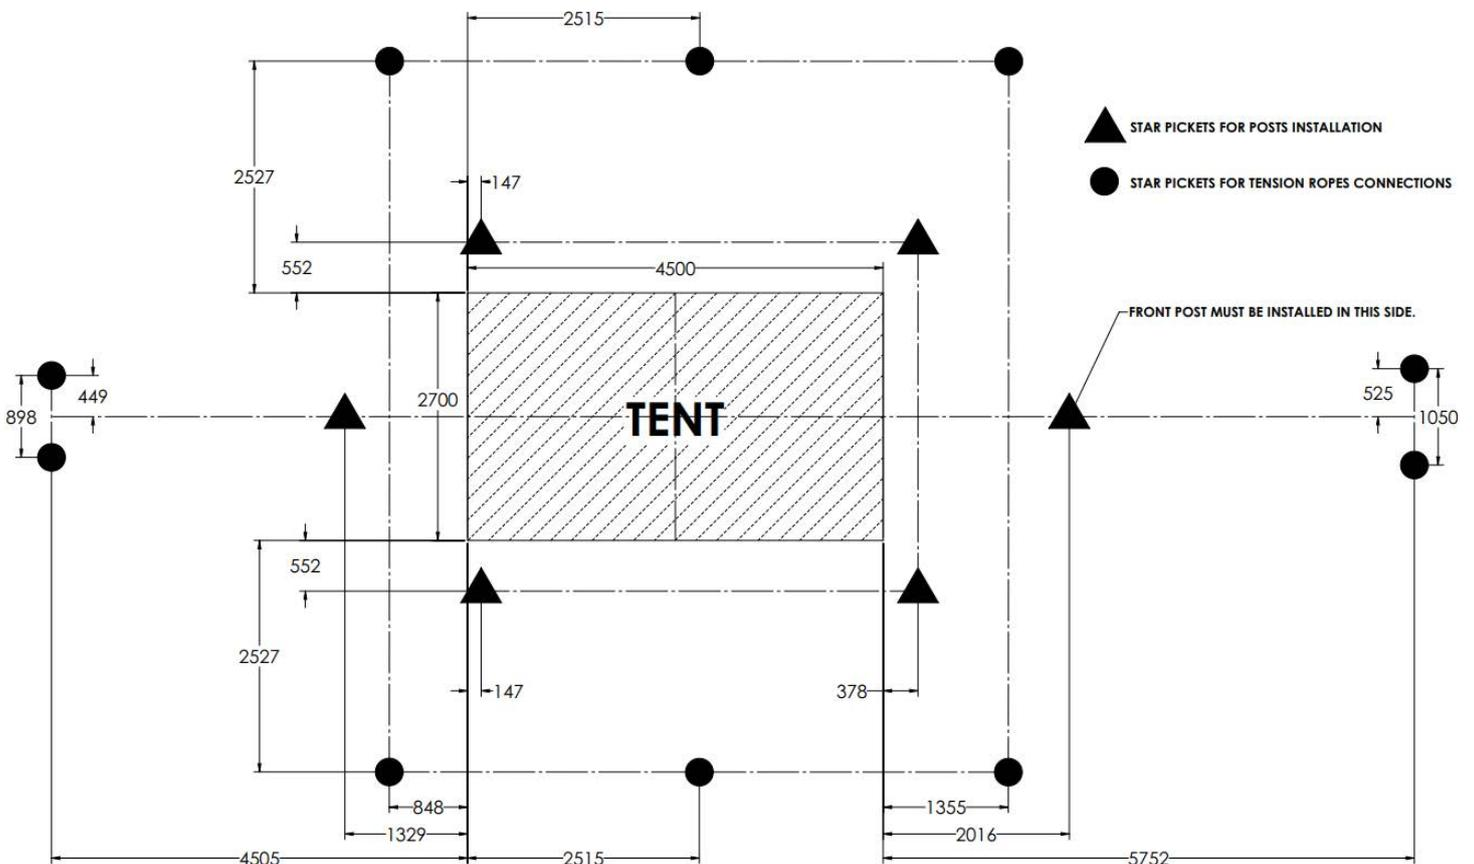
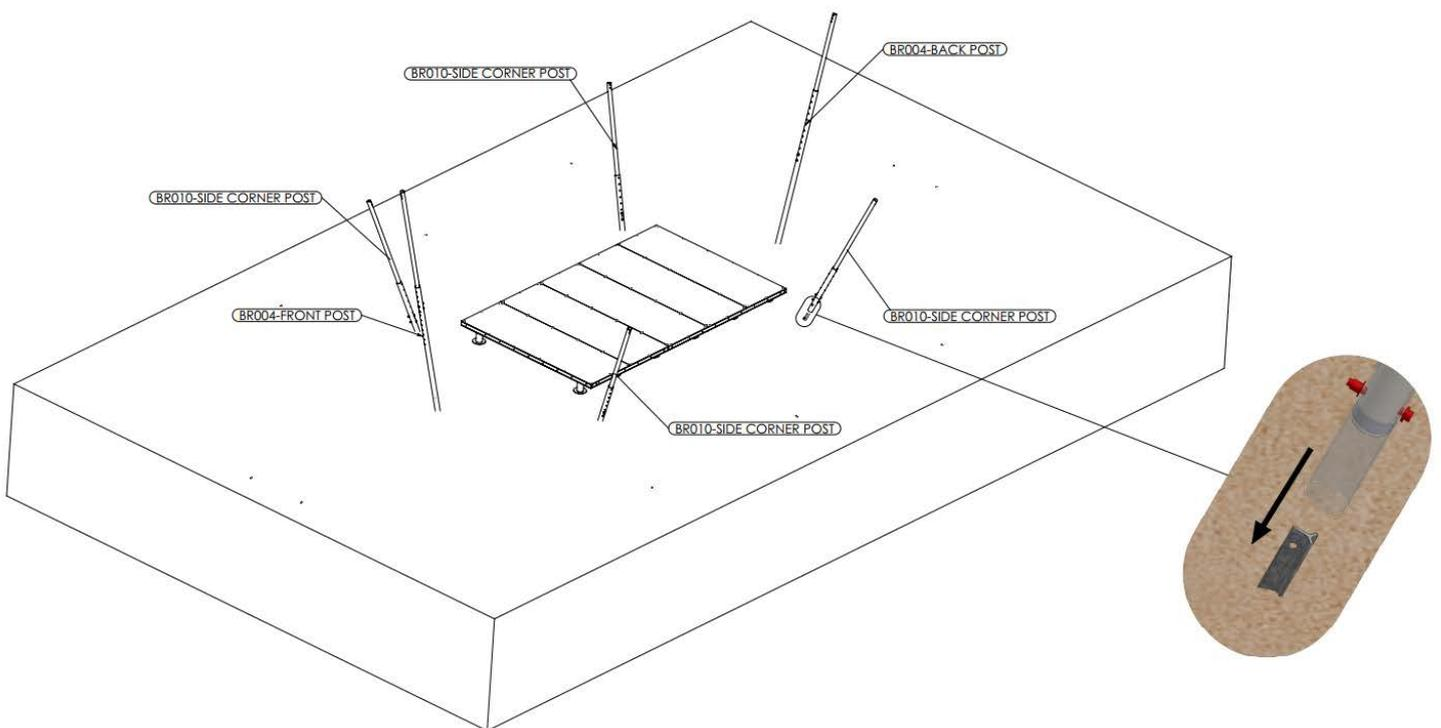

Figure 5: Position of star pickets relative to tent footprint
Figure 7: Arrangement of posts around the flooring system
1. Mark out tent area and 16 Star Picket locations (Figure 5).
1. Position all posts in place at the locations marked with triangle in Figure 5. Ensure the arrangement matches the configuration shown in Figure 7.